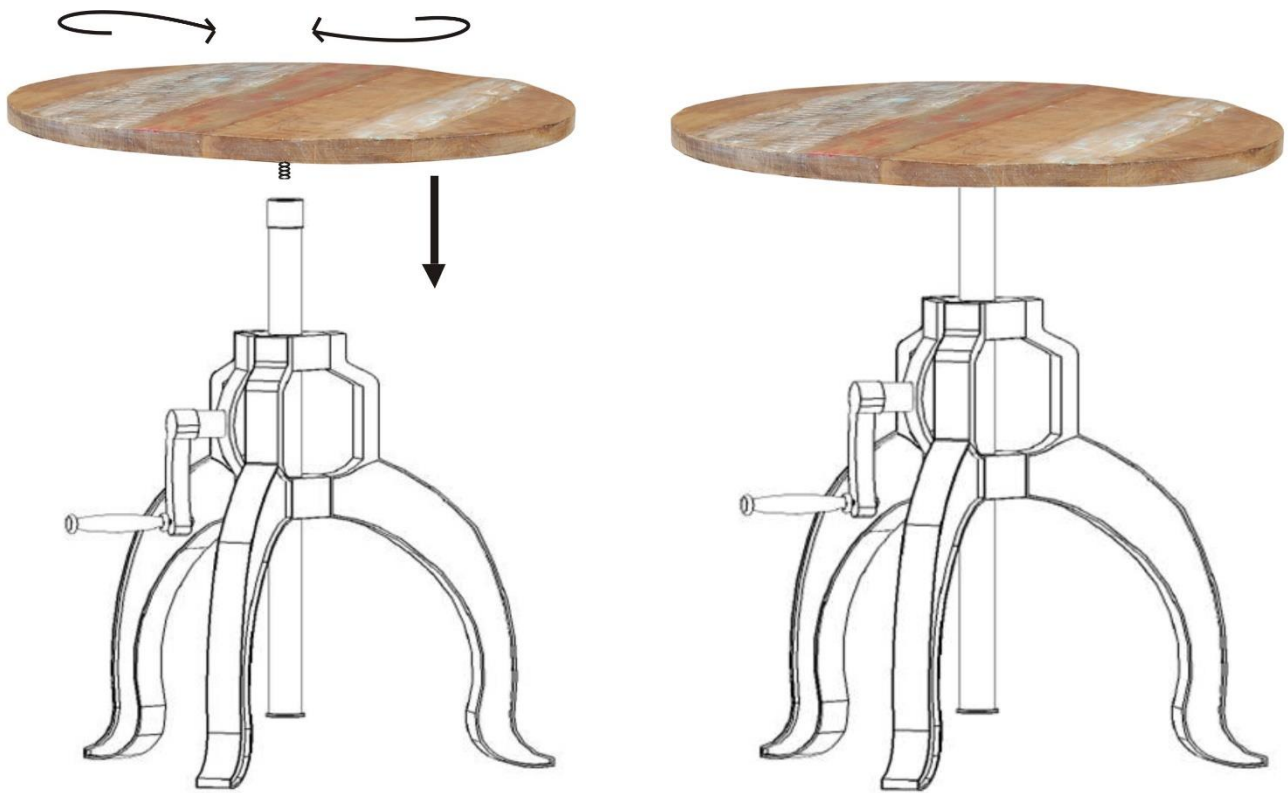

Fig.3
2. Assemble the table top (B) to the table base (A) by inserting the threaded rod on underside of the table top to the table base metal tube. Rotate table top clockwise until it is securely attached to the table base. **Fig. 3**